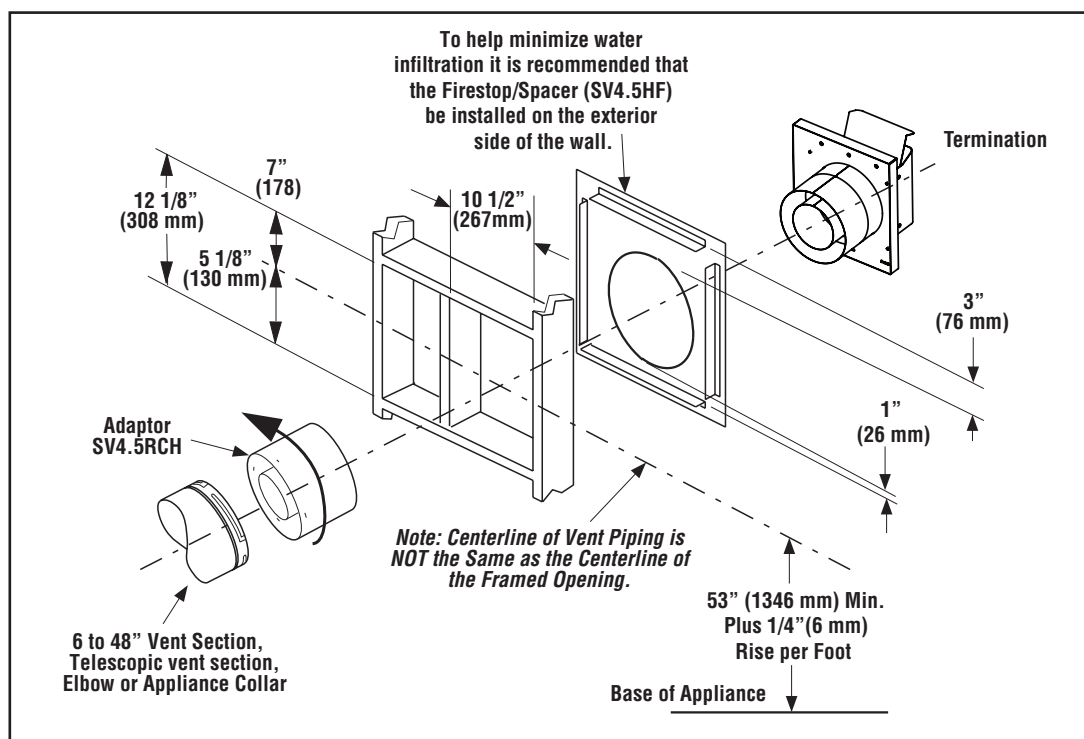

Figure 9 - Installing the Horizontal Termination
10. **Assemble the vent run to the exterior wall**—If not previously measured, locate the center of the vent at the exterior wall. Prepare the opening. Assemble the vent system until the terminus of the last section is within 7" (178 mm) to 11 1/4" (286 mm) inboard of the exterior surface to which the SV4.5 HT termination is to be attached (Figure 9). If the terminus of the last section is not within this distance, use the telescopic vent section SV4.5LA, as the last vent section. Table 1, page 16 lists the additional venting components needed (in addition to the termination and adaptor) for a range of wall thicknesses.
11. **Attach the termination adaptor**—Attach the adaptor (SV4.5RCH, provided with the termination) to the vent section or telescoping vent section, elbow or fireplace collar (Figure 9).
12. **Install the firestop/spacer at the exterior wall**—When using the square termination, install SV4.5HF Firestop/Spacer over the opening at the exterior side of the framing, long side up, with the 3" spacer clearance at the top (Figure 9) and nail into place.